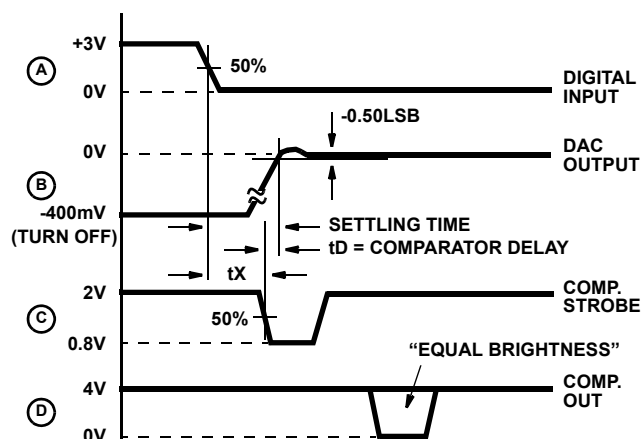

FIGURE 3B.
As shown in Figure 3B, settling time equals tX plus the comparator delay (tD = 15ns). To measure tX,
- Adjust the VLSB supply for 50% triggering at COMPARATOR OUT. This is indicated by traces of equal brightness on the oscilloscope display as shown in Figure 3B. Note DVM reading.
- Switch to LSB to Pulse (P)
- Measure tX from scope as shown in Figure 3B. Settling time equals tX + tD, i.e. tX + 15ns.